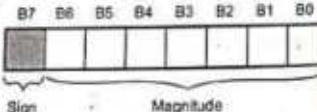

Fig. 1.6.1
- Fig. 1.6.1 shows the sign magnitude format for 8-bit signed number.